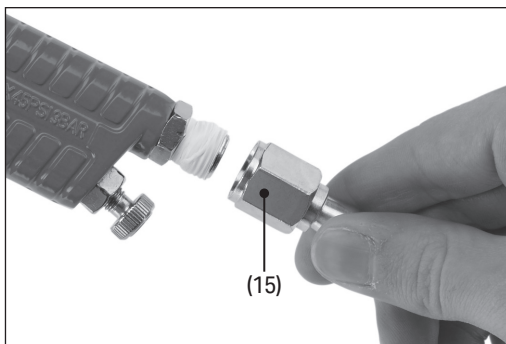

Fig. 5
4. Screw the spray gun air inlet into the regulator outlet (15) (Fig. 5).
5. Wrap a length of PTFE tape around the regulator inlet (14) and attach it to the air line.